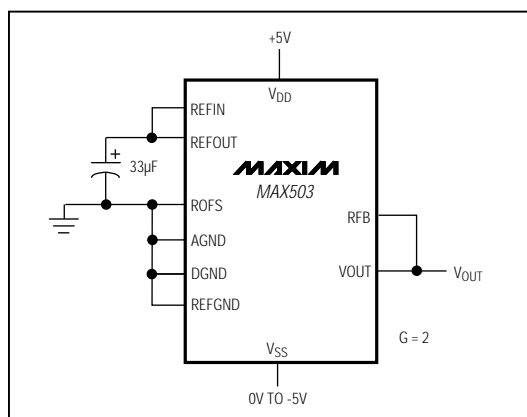

Figure 10. Unipolar Configuration (0V to +4.096V Output)
A 0V to $2V_{\text{REFIN}}$ unipolar output range is set up by connecting ROFS to AGND and RFB to VOUT (Figure 10). Table 4 shows the DAC-latch contents vs. VOUT. The MAX503 operates from either single or dual supplies in this mode. In this range, $1\text{LSB} = (2)(V_{\text{REFIN}})(2^{-10}) = (V_{\text{REFIN}})(2^{-9})$.